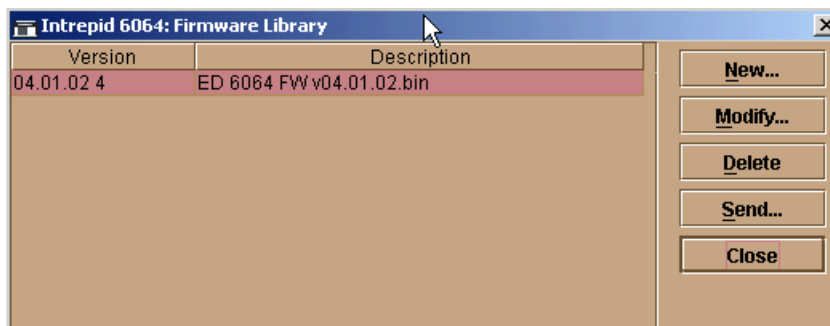

Figure 4-127 EFCM Firmware Library
- a. From the ED-6064 product manager menu, select **Maintenance** → **Firmware Library** and then select the new option shown in Figure 4-127.